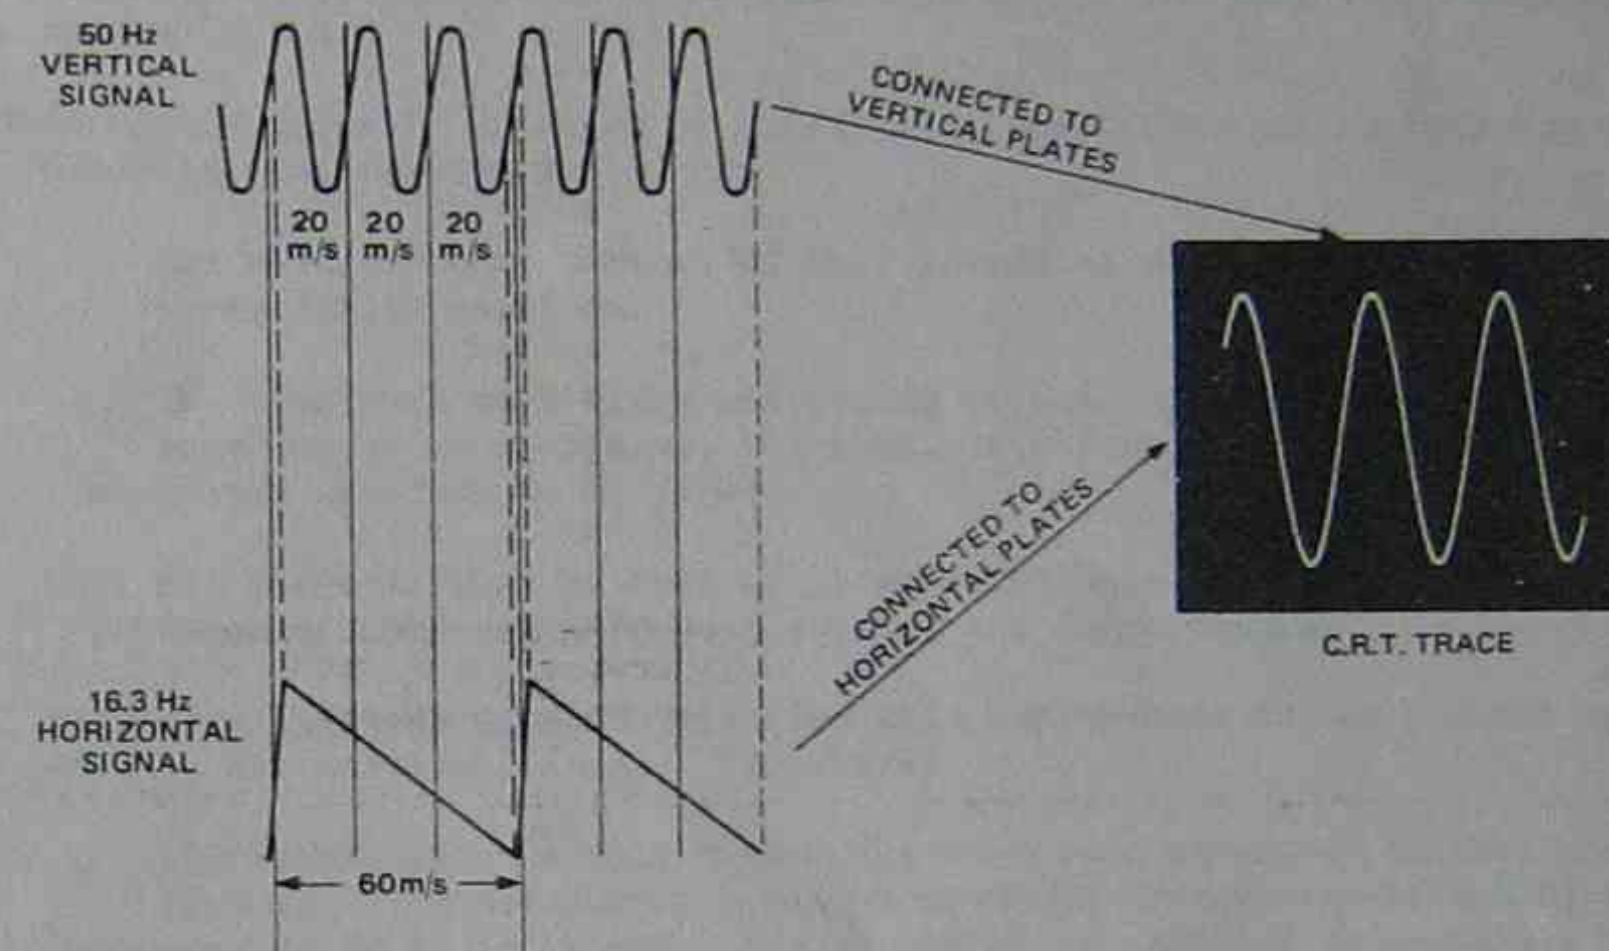

FIG. 17. 3 CYCLE C.R.T. DISPLAY.
5.7 MULTIPLE CYCLE DISPLAY. The sweep voltage duration is variable and by adjusting the time duration of the sweep the number of cycles which are displayed on the C.R.T. is varied. For example if the horizontal deflection voltage takes 60 milli-seconds to sweep across the screen and the vertical deflection signal completes one cycle each 20 milli-seconds, three cycles are displayed on the C.R.T. and the cycle in the centre is complete, with no time lost in retrace, as shown in Fig. 17.